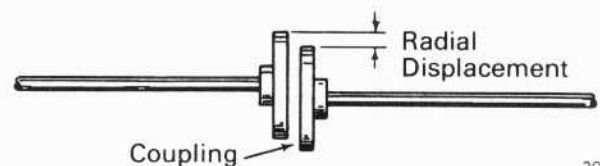

Fig.2 - Radial Misalignment
**RADIAL** - This dimension is measured outward from the center of the shaft in a plane perpendicular to the main axis of the shaft. Misalignment in the radial dimension, Fig. 2, means a difference in position of the rotating axis of one shaft from a reference point. Where two shafts are coupled together, the reference point is the center of rotation of one of the shafts.